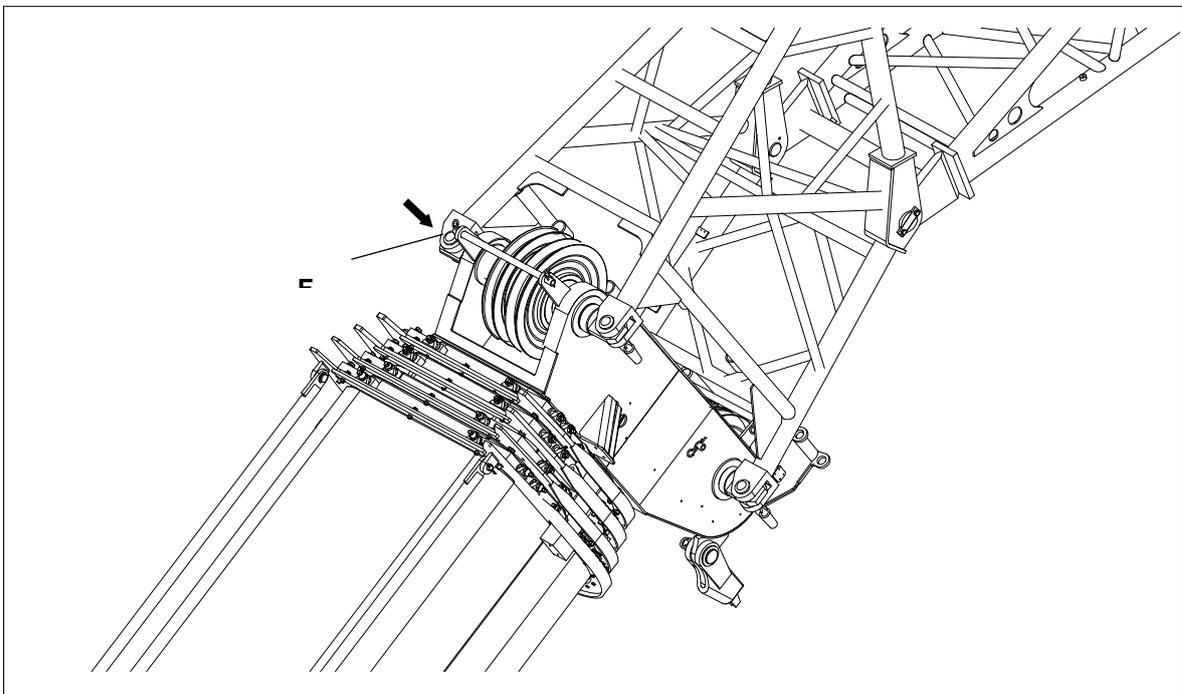

Figure 5-10 Pin VI installation
- i) Align the end of the jib with pin holes on the left side of boom head. Install the pin VI and the retaining clip. See Figure 5-10.